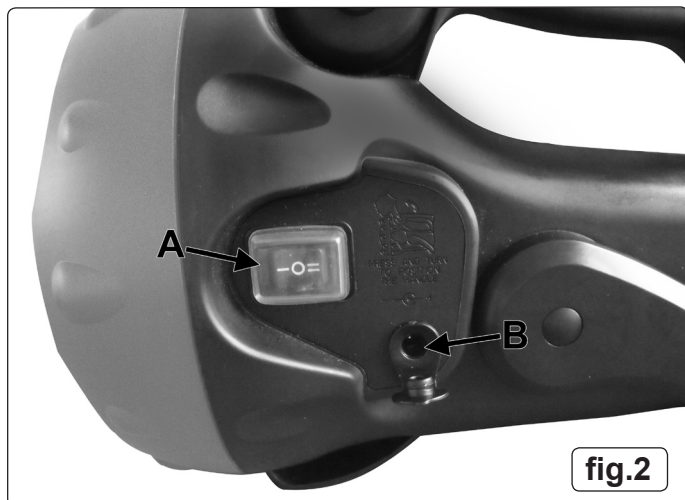

fig.2
- 3.1.2. Turn spotlight 'On' and 'Off' by the rocker switch (fig.2.A) on the main body. Select position 'I' for NORMAL power and position 'II' for HIGH power. Select position 'O' to turn the spotlight 'Off'.
- 3.2.1. Ensure the spotlight is turned 'Off' and then plug the charger adaptor (fig.3) into the jack inlet (fig.2.B) on the spotlight body. Stand the spotlight in a safe location ready to charge.
- 3.3.1. Ensure the spotlight is turned 'Off' and then plug the vehicle charger plug (fig.4) into the jack inlet (fig.2.B) on the spotlight body. Stand the spotlight in a safe location ready to charge.